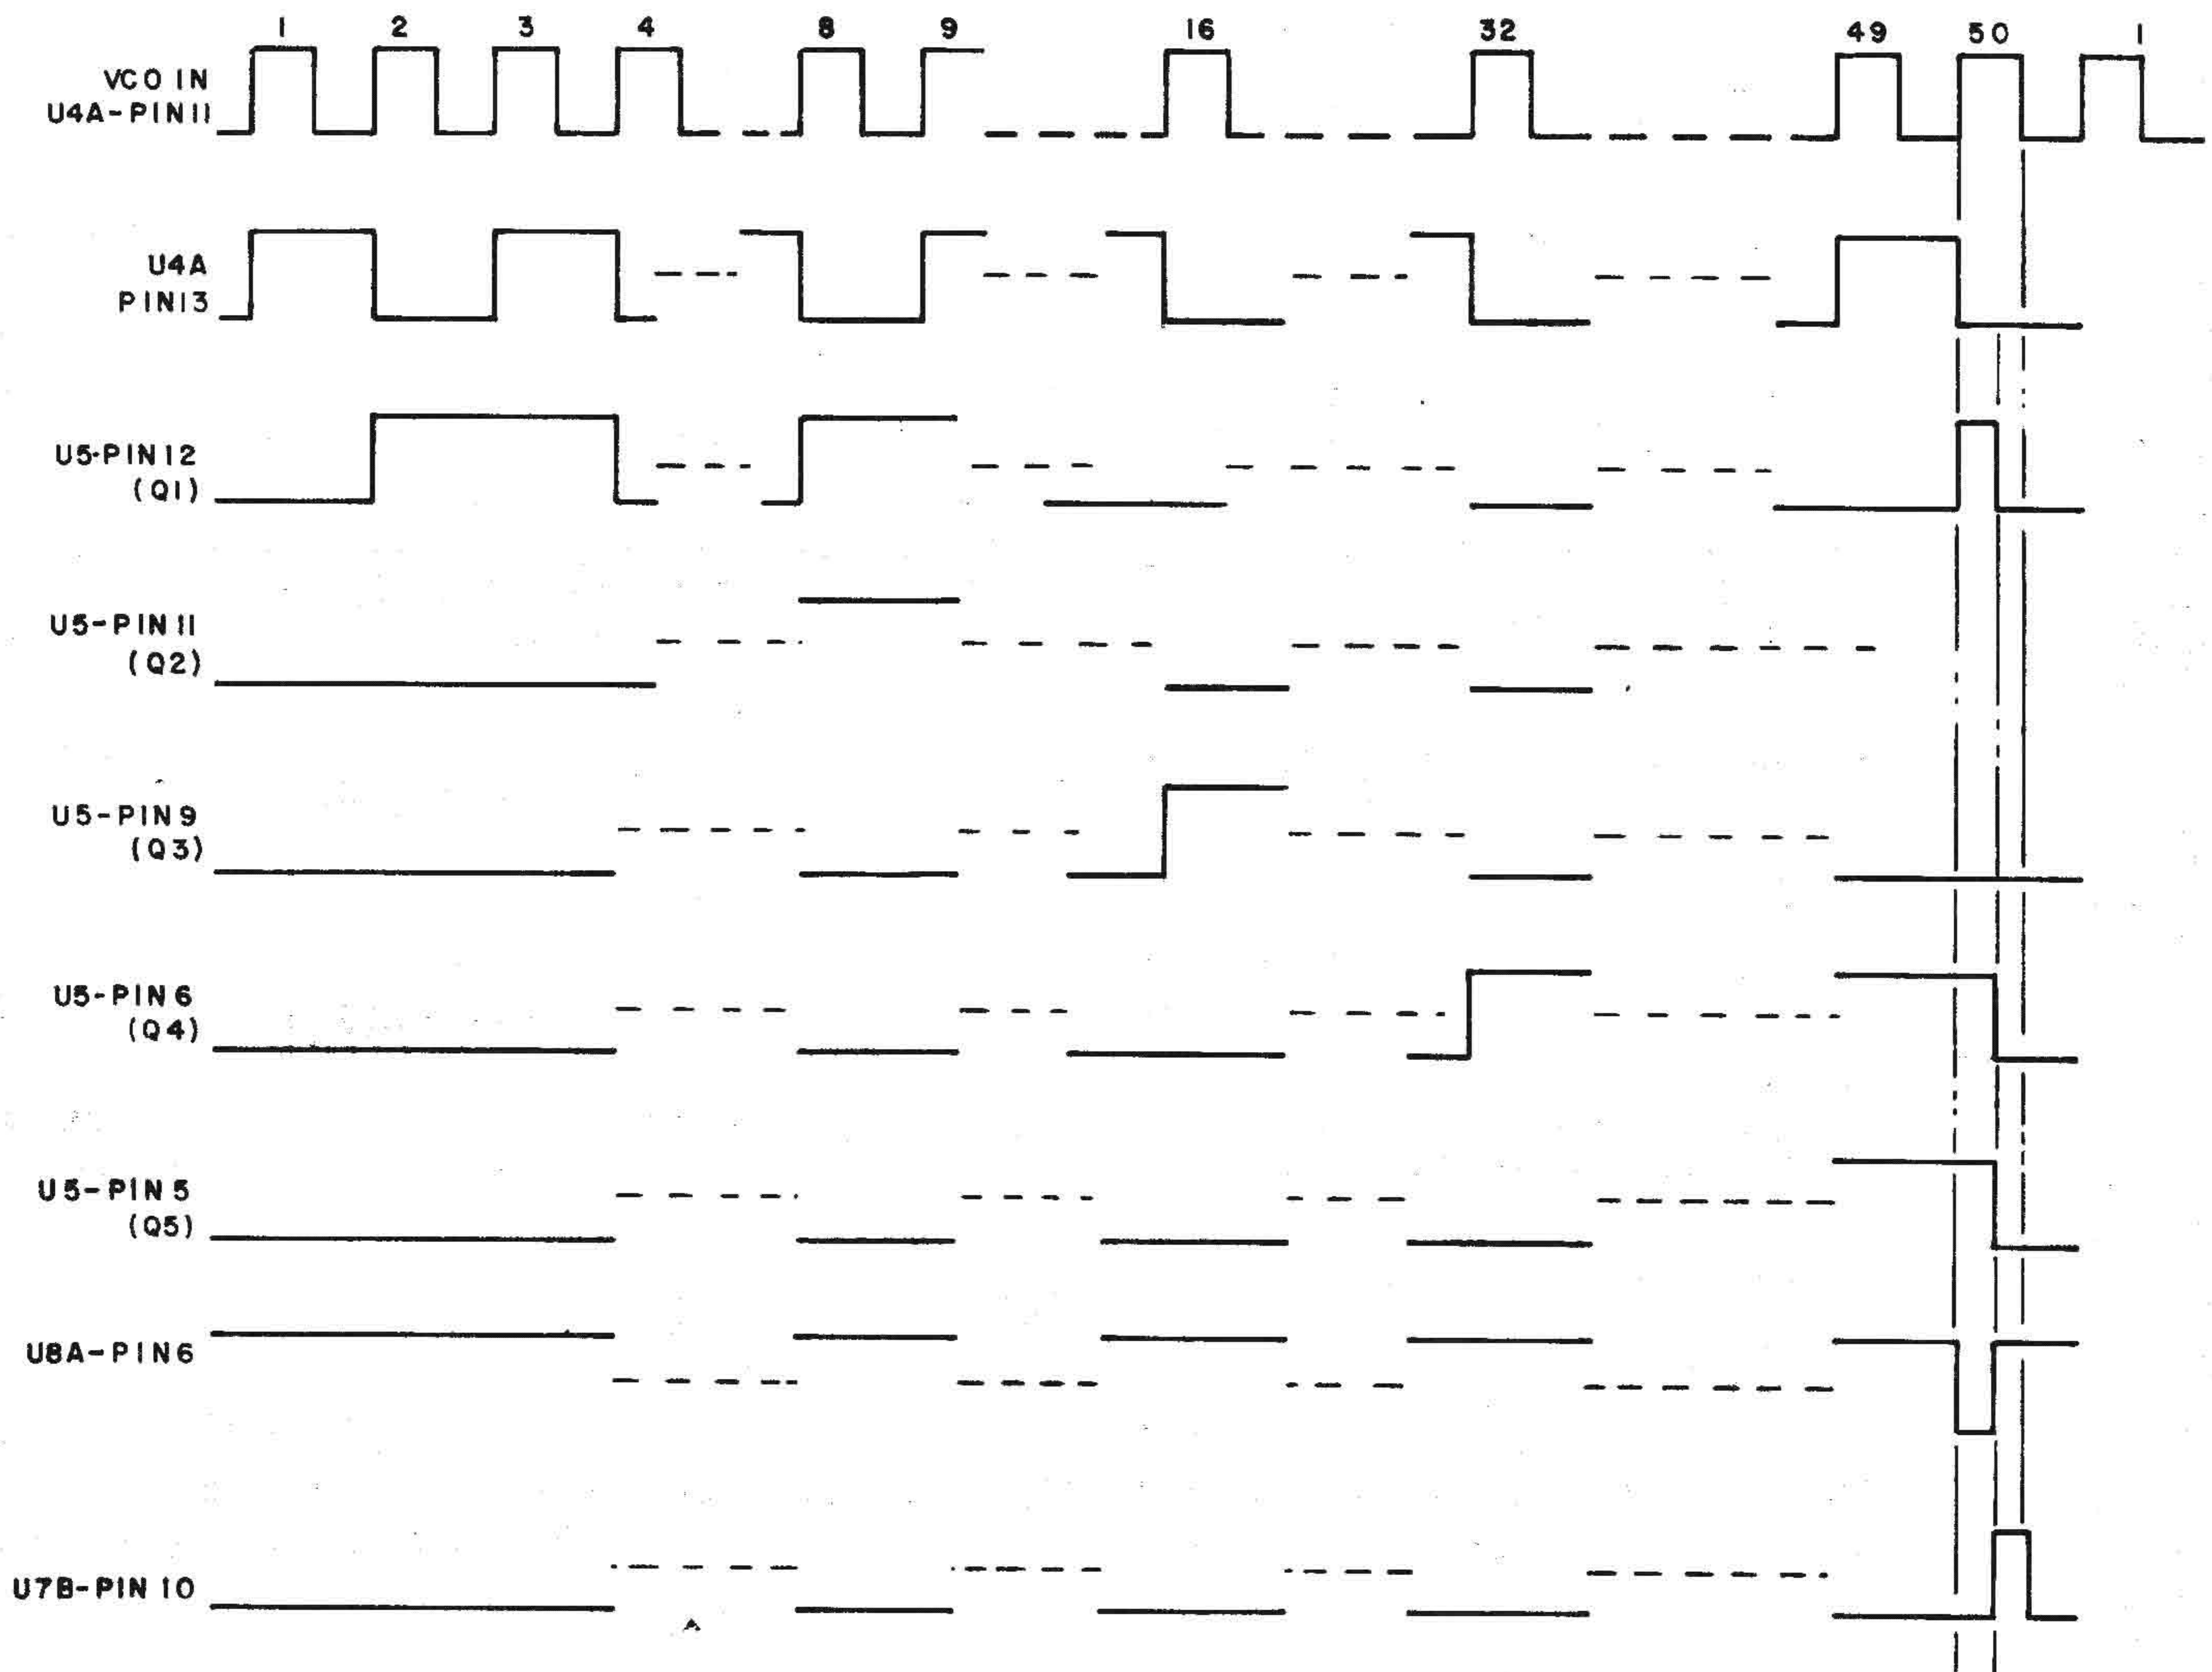

Fig. 2-56. Divider-by-50, typical waveforms
(4) Divider-by-50 (fig. 2-56).
The operation of this circuit is similar to that of the divider-by-175 contained in module REF 1A3A6 (see para. 2-20). The divider consists of U4A, U5, U8A and U7B. The VCO output signal is applied to the input of U4A. D-flipflop U4A operates as a divide-by-2. Its output is applied to the 7-stage binary counter U5. Gate U8A decodes the state 11001 (binary equivalent of 25) and causes a low level to be applied via the R15, C12 delay network, to gate U7B. This causes a narrow positive pulse to appear at the U7B output for every 50 input pulses to U4A. The output pulses of U7B also resets U5. These pulses are inverted by U8B and applied to pin Q (LOF line). Fig. 2-56 shows typical waveforms.